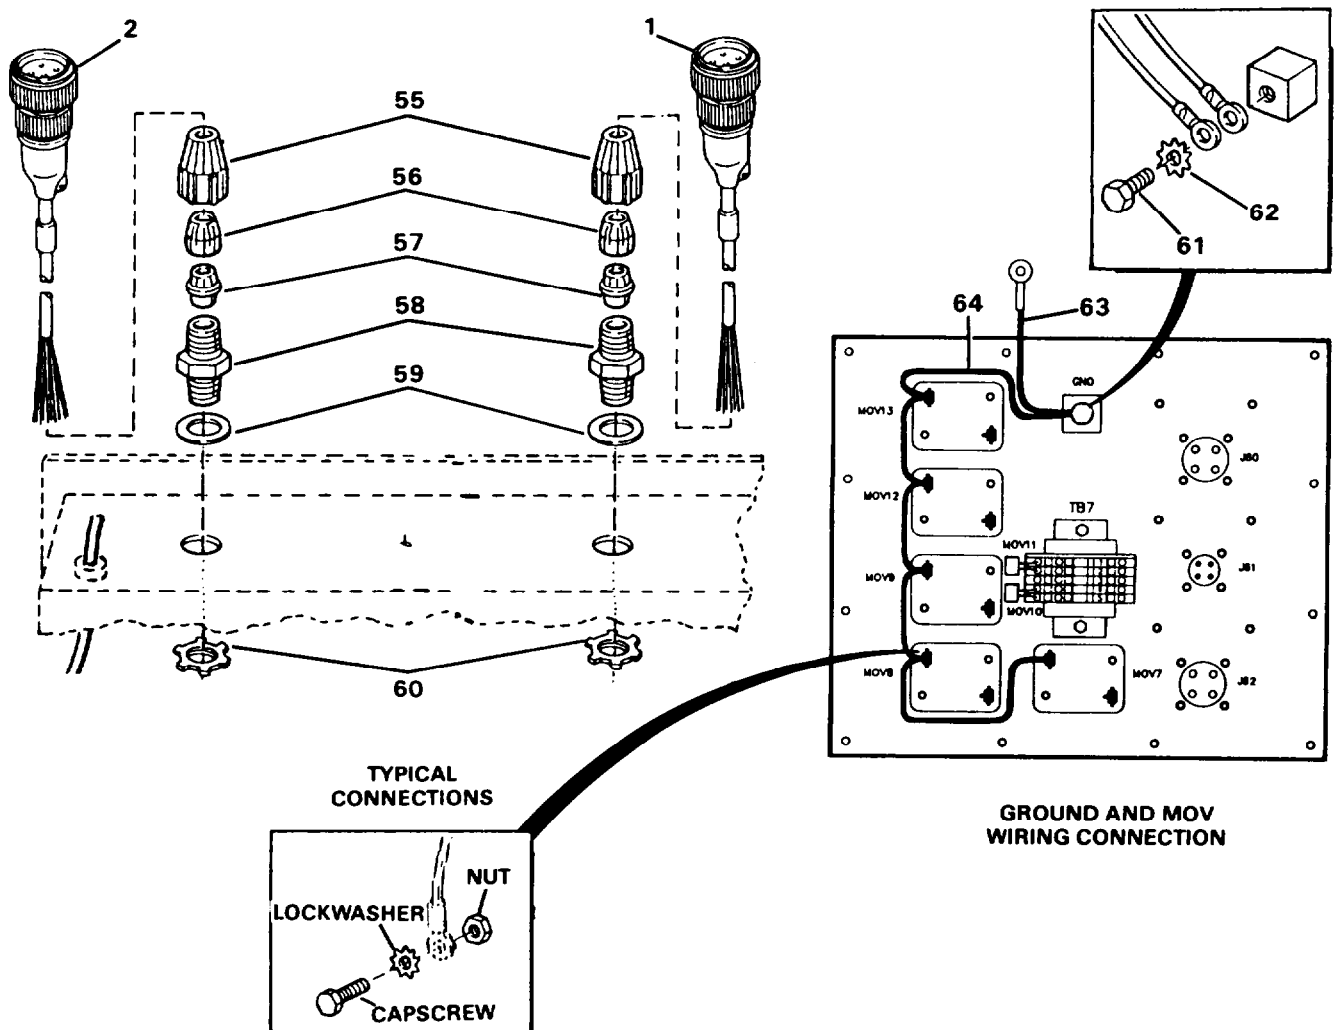

Figure 4-39. Distribution Pump External Electrical Panel Assembly (sheet 2 of 2)
m. Remove harness assembly (48) as follows:
- (1) Remove screws (49), nuts (50), washers (51) and dust cap (52).
- (2) Harness (48) and gasket (53) are now free.
n. Tag wires of cables (1 and 2), loosen nuts (55, Figure 4-39, sheet 2) and slide the nuts (55), retainers, bushings (57), connector bodies (58) and sealing nuts (59) onto cables (1 and 2).
o. Remove conduit nuts (60) and cables (1 and 2) and pull cables (1 and 2) through ROWPU wall.
p. If necessary, remove ground screws (61) and lockwashers (62) and ground wires (63 and 64).